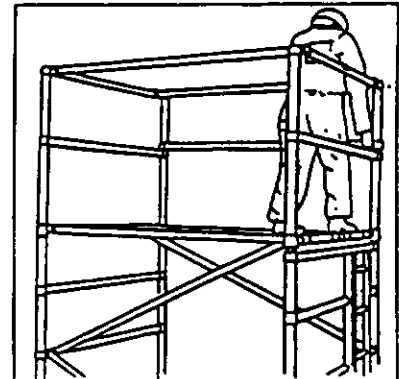

Fig.17
- c. To complete the working platform and guard-rail section, use the existing P62 Platform as an 'intermediate' level and have raised a second P62 Platform, which should be passed up through one of the Frames from outside of the Tower and placed onto the bottom rungs of the Guard-Rail Frames (Figure 17)